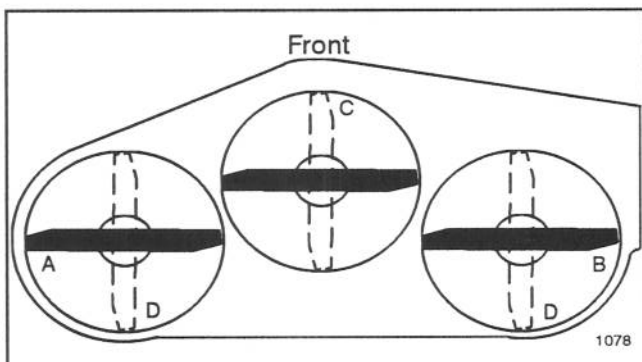
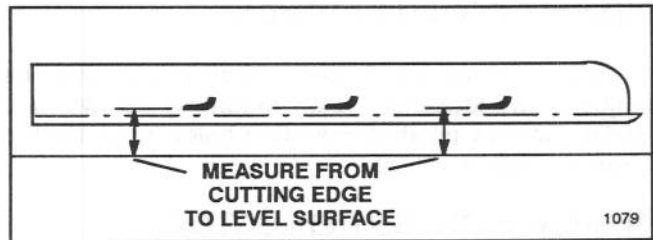

Figure 16
Figure 17
1. Position blade(s) front-to-rear (Fig. 16). Measure at "C" and "D" locations (Fig. 16), from level surface to the cutting edge of blade(s) (Fig. 17).
1. Position blade(s) side-to-side (Fig. 16). Measure at "A" and "B" locations (Fig. 16), from level surface to the cutting edge of blade(s) (Fig. 17).